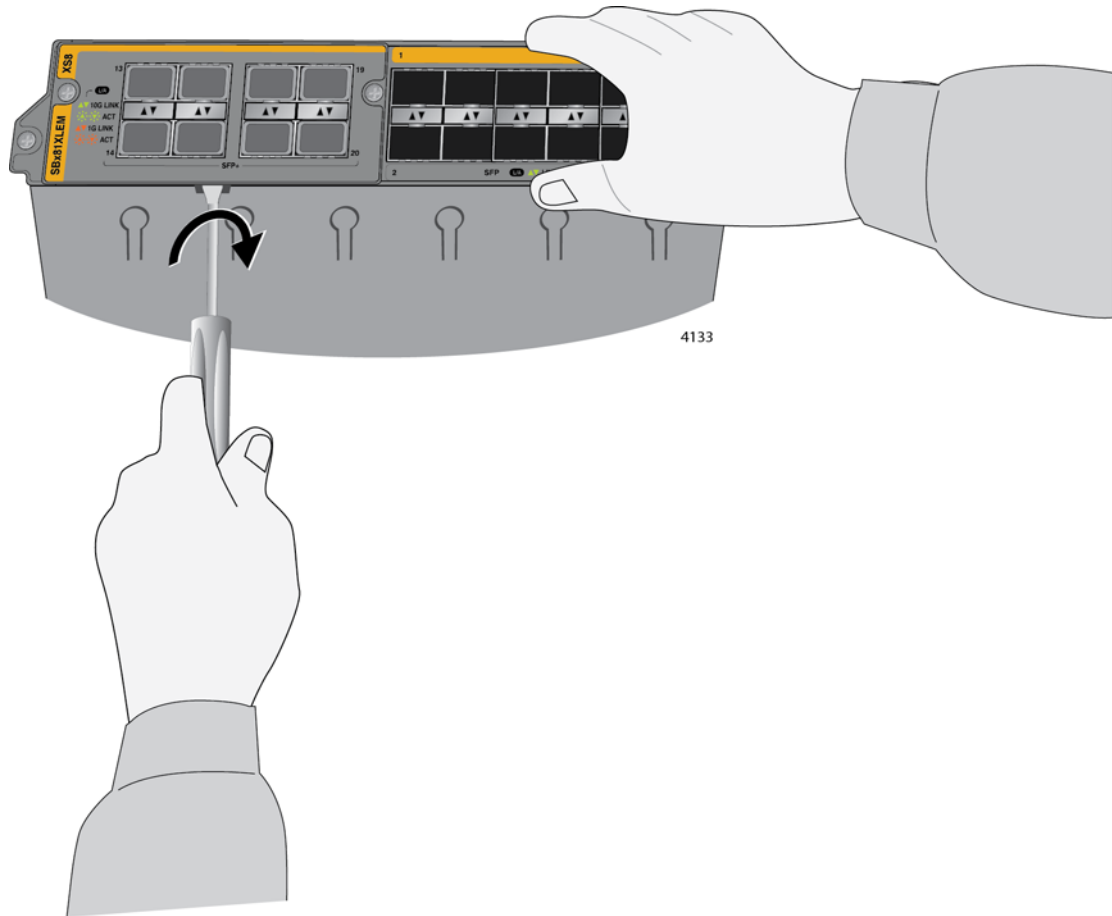

Figure 174. Disconnecting the Expansion Module from the AT-SBx81XLEM Line Card
5. Lift the front of the line card and carefully insert the tip of a flathead screwdriver into the slot beneath the expansion module on the bottom panel. Gently twist the screwdriver to disconnect the module from the connector in the line card. Refer to Figure 174.